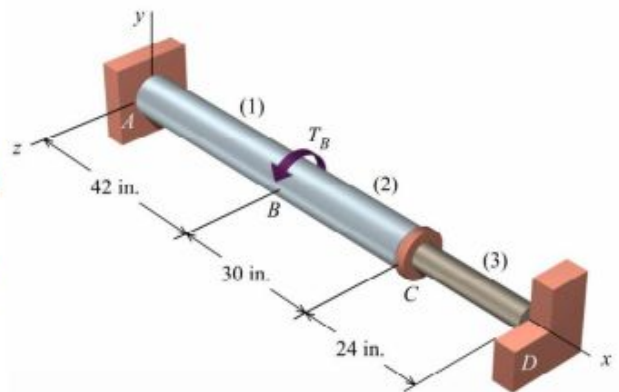

FIGURE P6.73/74
P6.74 The torsional assembly of Figure P6.73/74 consists of a cold-rolled stainless steel tube connected to a solid cold-rolled brass segment at flange *C*. The assembly is securely fastened to rigid supports at *A* and *D*. Stainless steel tubes (1) and (2) have an outside diameter of 3.50 in., a wall thickness of 0.120 in., a shear modulus of $G = 12,500$ ksi, and an allowable shear stress of 30 ksi. The solid brass segment (3) has a diameter of 2.00 in., a shear modulus of $G = 5,600$ ksi, and an allowable shear stress of 18 ksi. Determine the maximum permissible magnitude for the concentrated torque T_B .